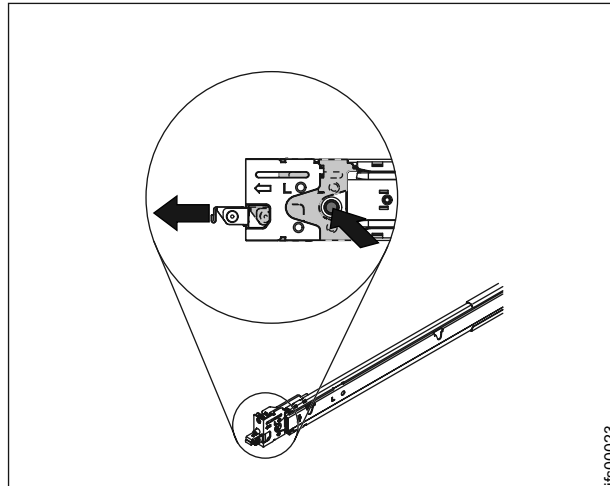

Figure 29. Install the rear end of the slide rails
5. Push the blue button to allow the latch to slide forward, as shown in Figure 29 on page 41.